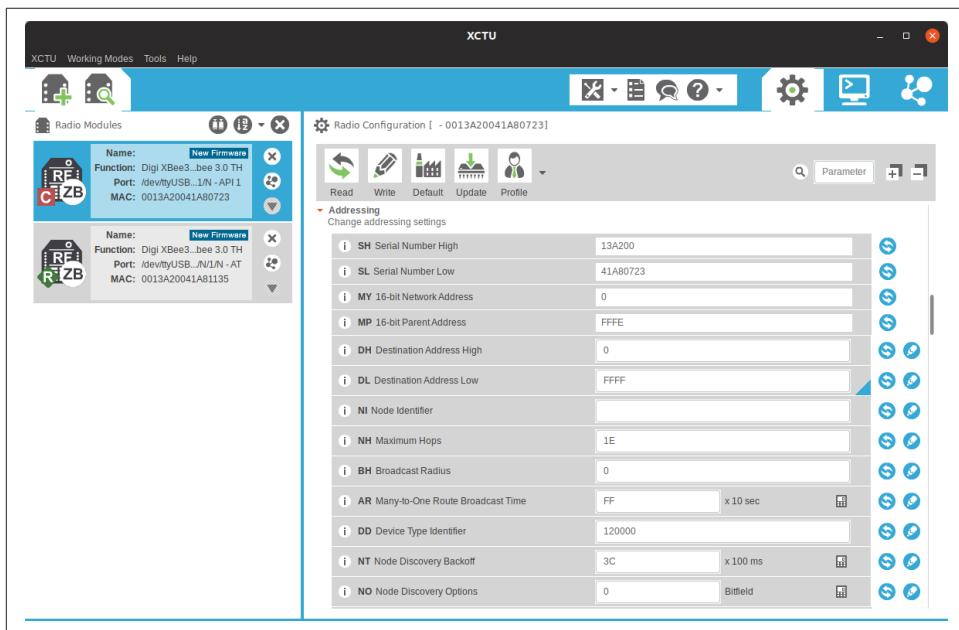

Figure 14-5. Looking up the high and low serial numbers in X-CTU
In your code, you must replace *0013A200* (DH) and *403B9E1E* (DL) with the high and low addresses of the destination radio. You can look up the high (ATDH) and low (ATDL) portions of the serial number using X-CTU, as shown in Figure 14-5. The numbers are also printed on the label underneath the XBee. For a Series 1 XBee use 0 for the DH, and for the DL use the MY address of the XBee you want to talk to.